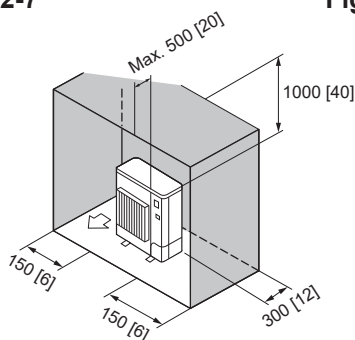

Fig. 2-11
6. Obstacles at rear, sides, and above only (Fig. 2-11)